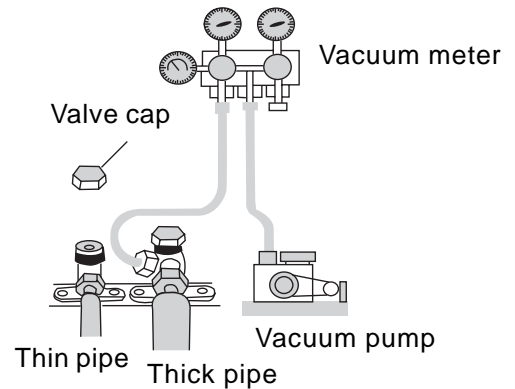

Fig.9-10
- If condition allows, it is available to evacuate air inside the unit from the gas valve core with a vacuum pump (Fig.9-10)